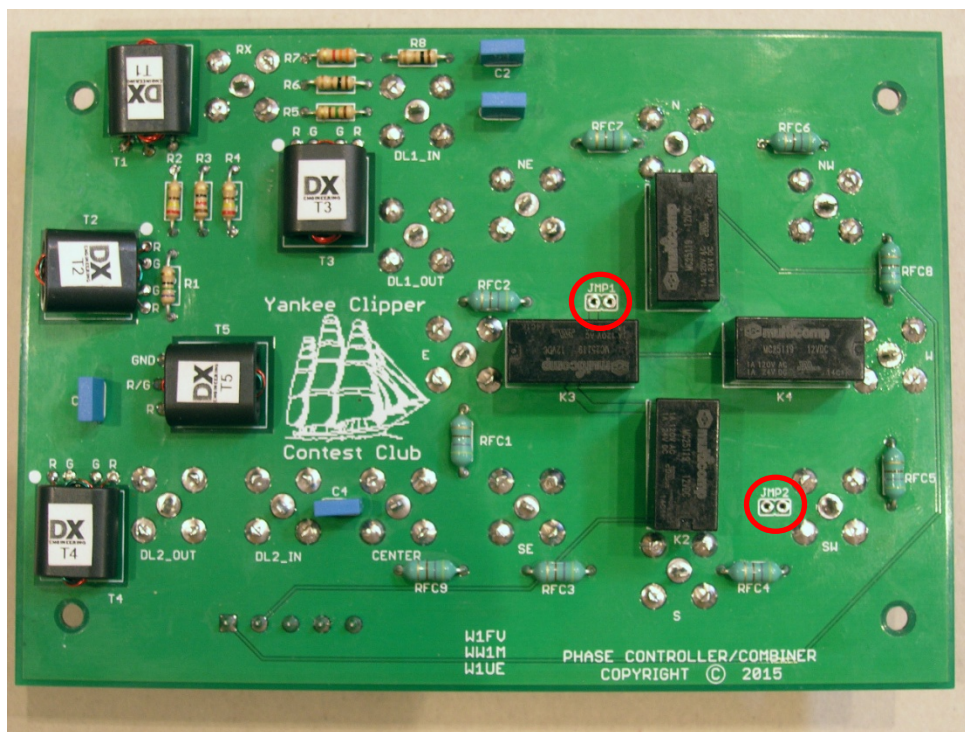
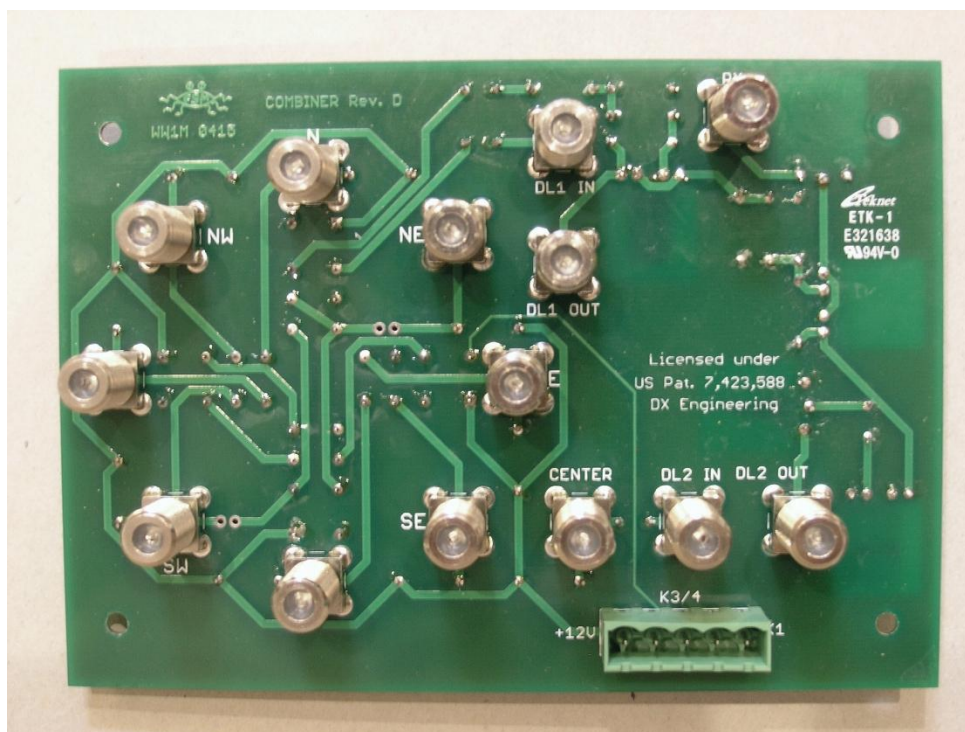

Figure 16. Component side of combiner PCB (jumper locations circled in red—see text)
Figure 17. Bottom side of combiner PCB
2. Looking at the top (component) side of the board, you will see for the resistors that the value and the part designator are both stenciled on the board. For the other parts, just the part designator (for example, C1 or RFC1) is stenciled on the board. The top side of the PCB is also identified by the Yankee Clipper Contest Club logo stenciled onto the board. All components except the F connectors and terminal block mount to the top side of the PCB. Refer to Figure 16 and Figure 17 as you follow these instructions. Note that the labels on the transformers shown in Figure 16 are for reference for identifying the transformers but the labels are not included in the kit.
21. Install and solder all 14 female connectors to the bottom side of the PCB as shown in Figure 17. Do not yet install the nuts.
22. Install and solder the 5-pin terminal block J1 to the bottom side of the PCB as shown in Figure 17. Make note of the labelling of the connections (+12V, GND, K3/4, K2, K1) for future reference.
23. If you are building the 3-element inline system, install two short wire jumpers through the holes circled in red in Figure 16. The jumpers bypass the unneeded relay switching circuitry on the PCB when there are only three antenna elements to be switched. If you are building either the 5-element square or 9-element circle systems, do not install the jumpers and leave the holes as is.
25. The two sides of the finished combiner PCB should now look like Figure 16 and Figure 17.